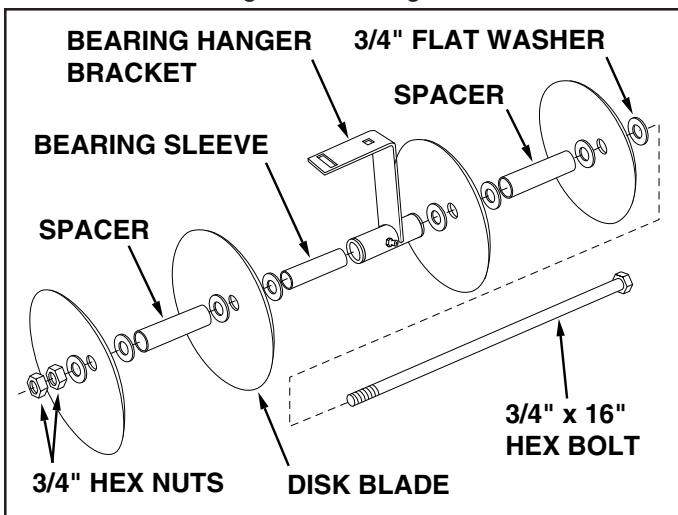

FIGURE 1
1. Assemble four disks to each bearing hanger bracket using a bearing sleeve (unplated), a 3/4" x 16" hex bolt, eight 3/4" flat washers, two spacers and two 3/4" hex nuts. Be sure the disks face the same direction relative to the hanger bracket as shown in the figure 1. **Tighten** the first hex nut and then **tighten** the second hex nut against the first.